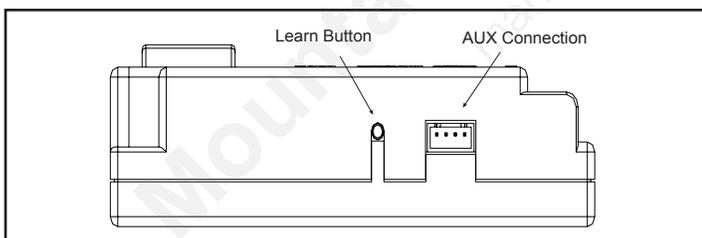

Figure 47 - Gas Module Left Side
1. There is a switch located on the right side of the module that reads REMOTE/OFF (Figure 47).
- To program the module (make sure the system has power), locate the learn button on left side as shown in Figure 47. Press and release the learn button. There will be a beep sound from the module. Then press any button on the remote transmitter. Once the module's internal receiver accepts the transmitter code, there will be a series of confirming beeps.